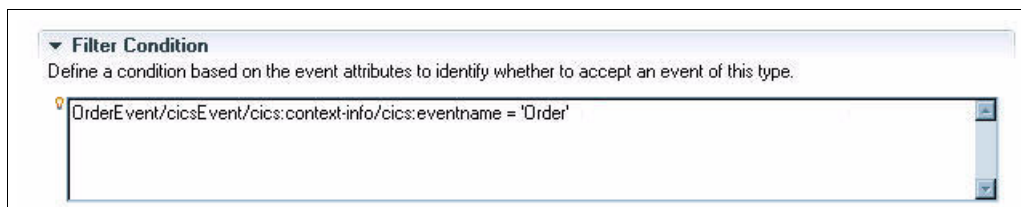

Figure 8-47 Order event filter
5. Type in the rest of the expression (= **'Order'**) to complete the filter condition. See Figure 8-47.